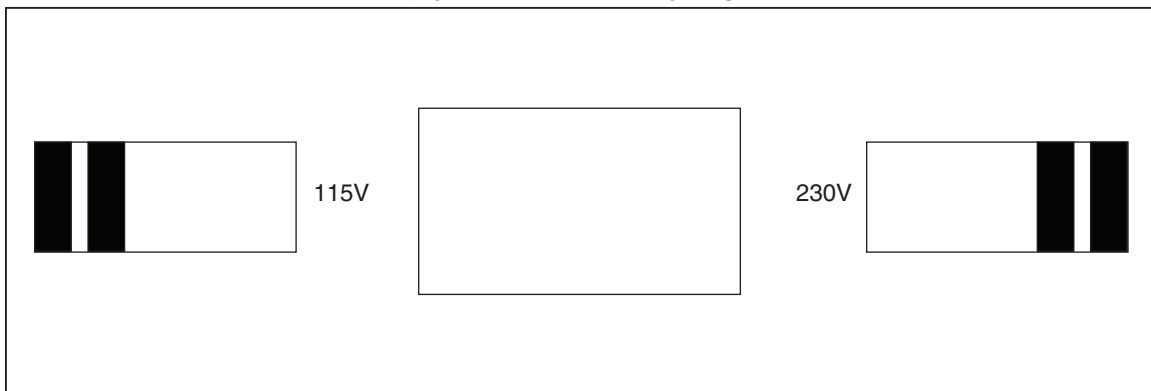

Figure 2. Slider Switch for Line Power Voltage (115 V and 230 V)
- Before use, check that the selected voltage range indicated on the BE345 matches the local line power voltage and frequency (refer to Figure 2). If necessary, set the slider switch of the BE345 to the correct voltage.